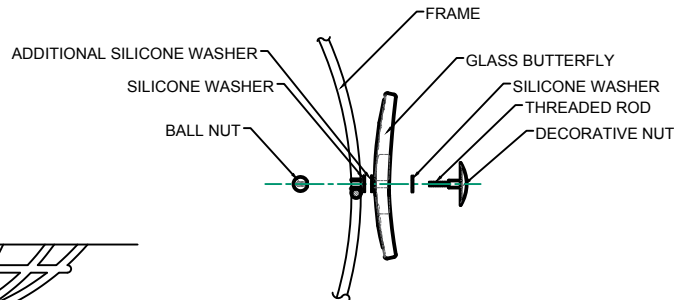

FIGURE-05
6. Remove a small portion of glass (See Figure -05) near the lamp socket where a hand can be easily fit inside the fixture. Install the lamps. (type-B lamp)